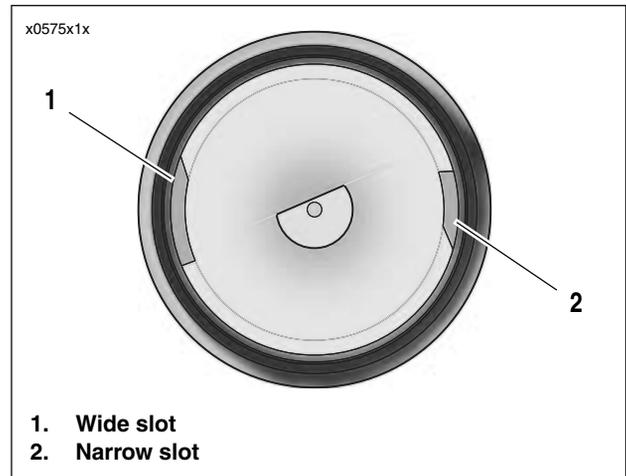

Figure 1-2. Filler Cap/Dipstick
See Figure 1-2. Note that dipstick has a wide slot (1) and a narrow slot (2) and can only be inserted in oil tank one way.